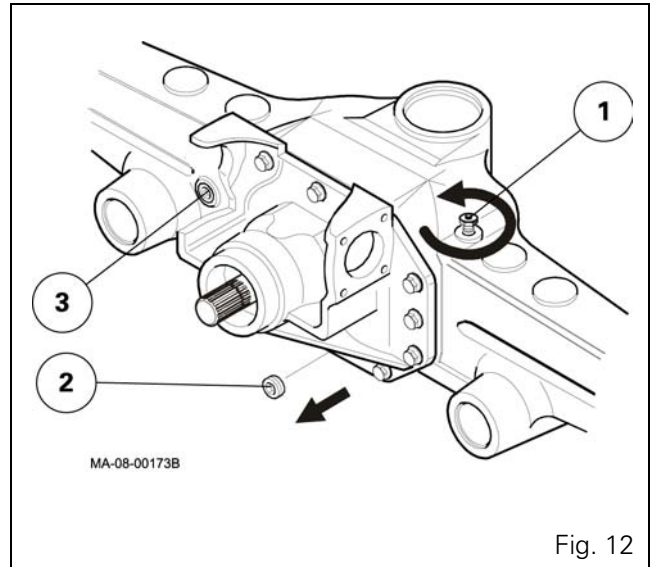

Fig. 12
Before draining the oil, loosen the breather (1) (Fig. 12) to release any internal residual pressure.
Drain the oil via the draining port (2), then tighten the drain plug to the required torque using a torque wrench (see § A) (Fig. 12).